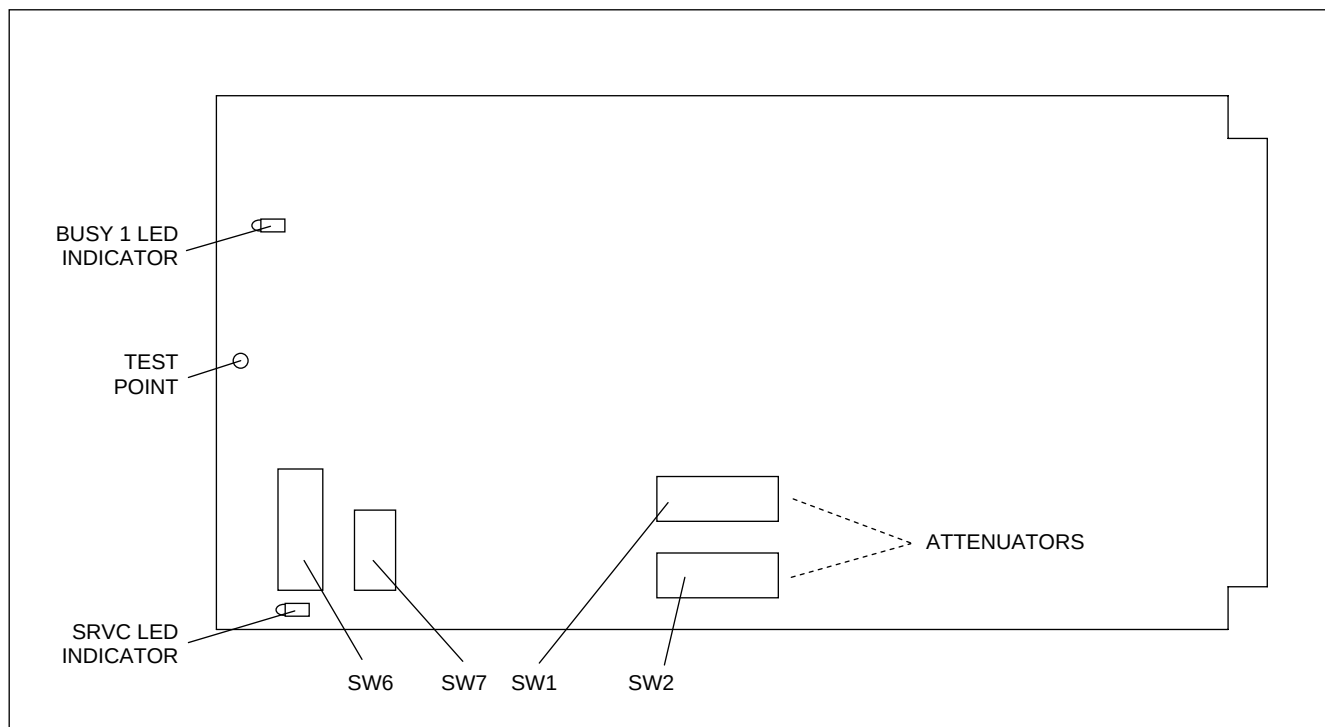

Figure 3. Controls and indicators, RFL VF-10B module
7. Set transmit/receive attenuation switches SW1 and SW2, if settings other than factory standard are desired. (See Figures 3 and 4 for location.)
8. Select any unused time slot using SW6-1 through SW6-5. (See Figures 3 and 4 for location.)
9. Select loop start using SW6-6. (See Figures 3 and 4 for location.)
10. Select transmit direction using SW6-7. (See Figures 3 and 4 for location.)
11. If you are configuring an RFL VF-10B module, set SW6-8 to the UP position. If you are configuring an RFL VF-11B module, select normal or ARD operation using SW6-8. (See Figures 3 and 4 for switch locations.)